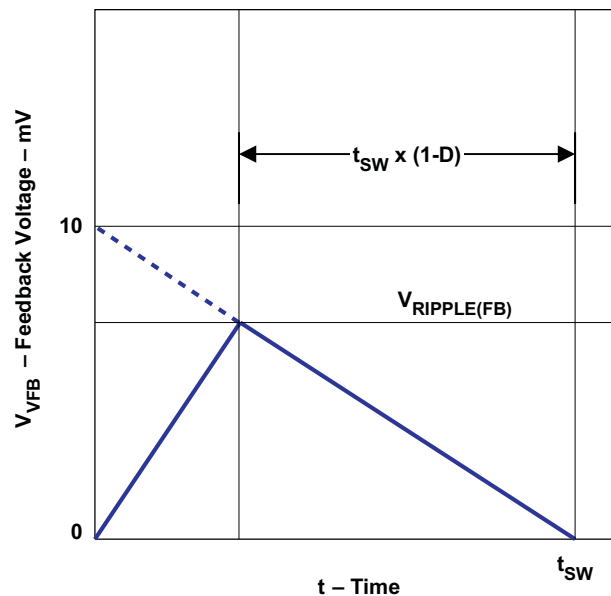

Figure 15. Ripple Voltage Down Slope
- the output ripple down slope rate is 10 mV/t_{SW} in terms of VFB terminal voltage as shown in Figure 15